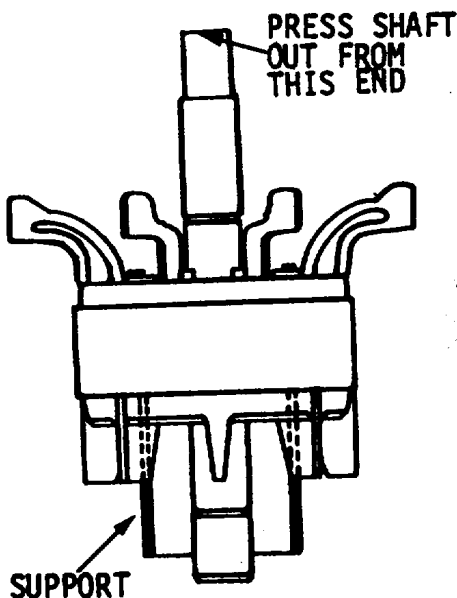

Fig. 1. Shaft rotor assembly
3. Support the rotor on the opposite-pulley end, on a tube with square ends. Support should be as close as possible to the aluminum end ring (see Fig. 1). Press against the pulley end of shaft, at the step in the shaft if possible.